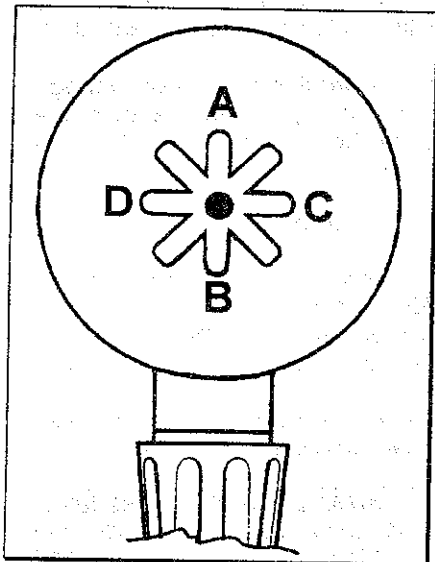

Fig.13
3. Operate the control (Fig.13) to position **A**: the chuck arm moves upwards. Operate the control to position **B**: the chuck arm moves downwards.
4. Operate the control (Fig.13) to position **C**: the arm support moves to the right. Operate the control to position **D**: the carriage support moves to the left.